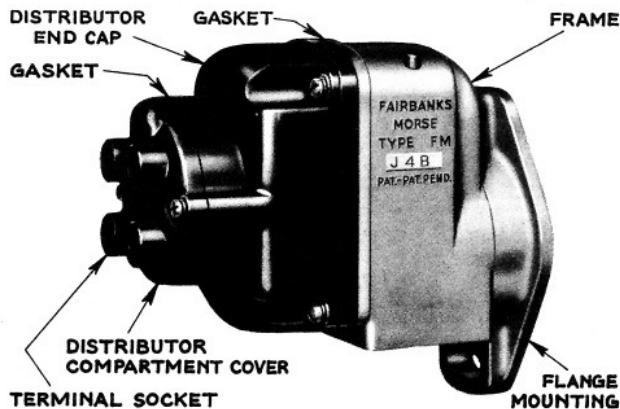

Figure 1 - Type FM-J4B Magneto
5. **DISTRIBUTOR COVER REMOVAL** - The distributor compartment cover (Fig. 1) should be removed, care being taken not to damage the gasket attached to the cover side of the joint. The distributor compartment should be thoroughly cleaned and the air inlet and outlet passages opened. Examine the high tension lead brush; replace if noticeably worn or damaged. This brush should move freely in its holder and should have a slight spring pressure.